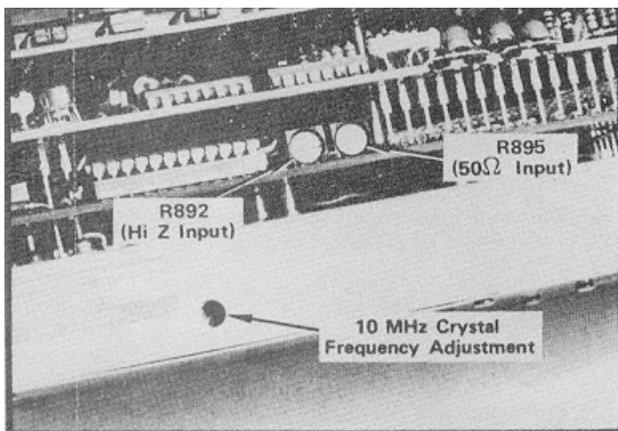

Fig. 4-2. Calibration adjustment locations for the Reference Oscillator and Calibrator.
6. Set the crystal frequency, with the adjustment illustrated in Fig. 4-2, so the calibrator frequency is within specifications.
3. Calibrate the reference oscillator frequency to 10.0000 MHz \pm 20 Hz with the crystal adjustment illustrated in Fig. 4-2.
- f. Calibrate the output level of the Calibrator to the reference level, by adjusting R892 (Fig. 4-2).
- k. With pin B13 shorted, adjust the calibrator output with R895 (Fig. 4-2) until it equals the reference level of the signal source.